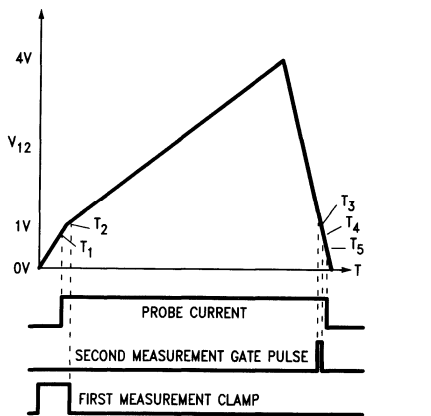

FIGURE 5
**Note 6:** Probe 1 amplifier tests are measured with pin 12 ramp voltage held between the  $T_3$  and  $T_4$  conditions (pin 12  $\approx 1.1V$ ) having previously been held above 4.1V to simulate ramp action. See Figure 5.
These probes require measurements to be made of their resistance before and after power has been dissipated in them. With a probe connected as probe 1 in the connection diagram the LM1042 will start a measurement when pin 8 is taken to a logic low level ( $V_B < 0.5V$ ) and the internal time-base ramp generator will start to generate the waveform shown in *Figure 5*. At  $0.7V$ ,  $T_1$ , the probe current drive is switched on supplying a constant 200 mA via the external PNP transistor and the probe failure circuit is enabled. At  $1V$  pin 1 is unclamped and  $C_1$  stores the probe voltage corresponding to this time,  $T_2$ . The ramp charge rate is now reduced as  $C_T$  charges toward  $4V$ . As the  $4.1V$  threshold is passed a current sink is enabled and  $C_T$  now discharges. Between  $1.3V$  and  $1.0V$ ,  $T_3$  and  $T_4$ , the amplified pin 1 voltage, representing the change in probe voltage since  $T_2$  (and as the current is constant this is proportional to the resistance change) is gated onto the memory capacitor at pin 14. At  $0.7V$ ,  $T_5$ , the probe current is switched off and the measurement cycle is complete. In the event of a faulty probe being detected the memory capacitor is connected to the regulated supply during the gate period. The device leakage at pin 14 is a maximum of  $2\text{ nA}$  to give a long memory retention time. The voltage present on pin 14 is amplified by 1.2 to drive pin 16 with a low impedance,  $\pm 10\text{ mA}$  capability, between  $0.5V$  and  $4.7V$ . A new measurement can only be started by taking pin 8 to a low level again or by means of the repeat oscillator.